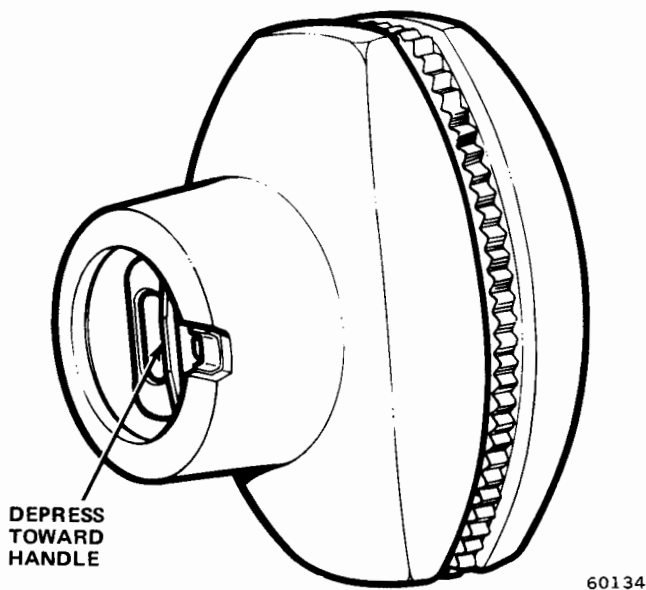

Fig. 13-7 Fan Control Knob Locking Feature
(1) Rotate knob until slot in neck of knob is visible. Insert a small bladed screwdriver in the slot and depress spring metal clip toward knob. This will relieve tension on the spring metal clip and allow knob to slide off shaft (fig. 13-7).